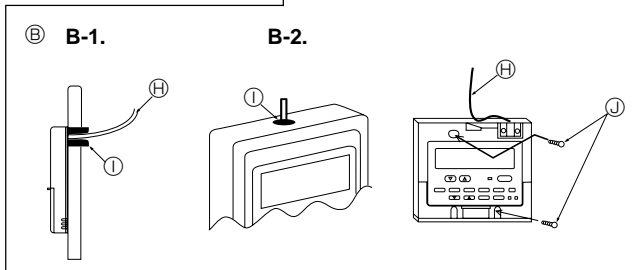

Fig. 2-2
- (A) Remote controller profile
- (B) Required clearances surrounding the remote controller
- (C) Installation pitch
(2) Seal the service entrance for the remote controller cable with putty to prevent possible invasion of dew drops, water, cockroaches or insects. (Fig. 2-2)
- (A) For installation in the switch box
- (B) For direct installation on the wall, select one of the followings:
[Fig.2-2]